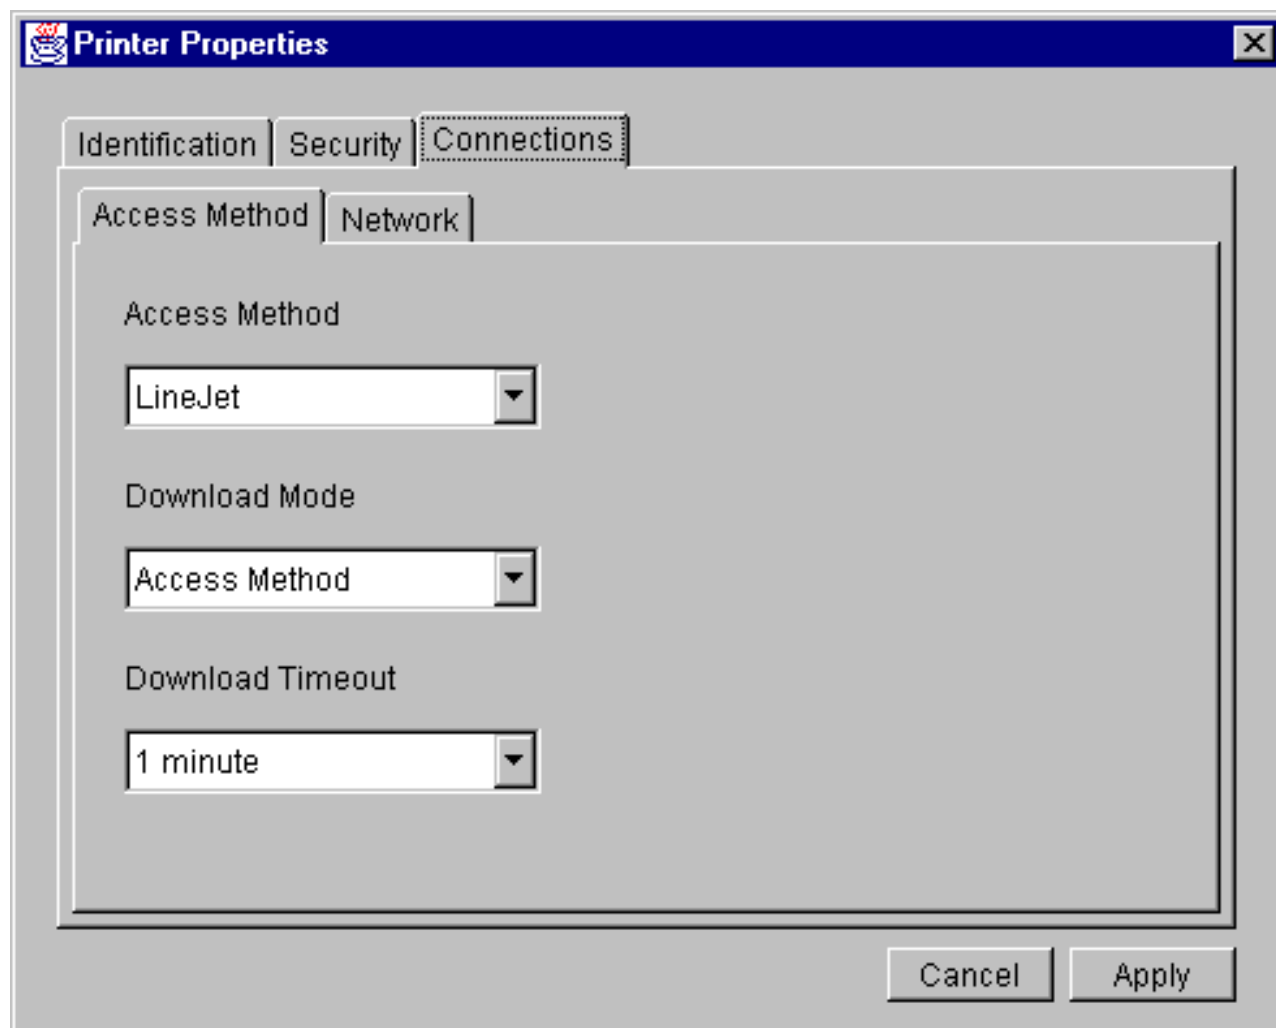

Figure 4. Printer Properties (Connections)
15. Click on the tab at the top of the window that reads, “Connections.” The Printer Properties window changes to the Connections screen. See Figure 4.